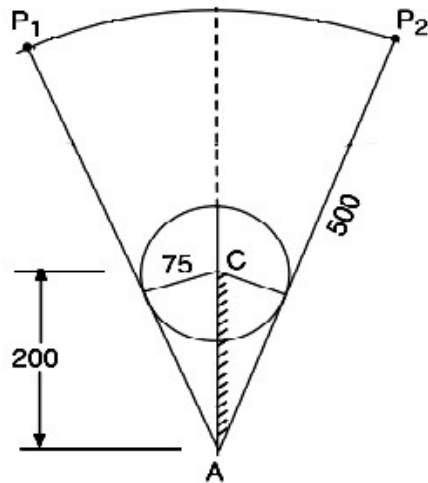

Fig: 3
3. (a) In a crank and slotted lever quick return mechanism, as shown in figure 3 below, the driving crank length is 75 mm. The distance between the fixed centers is 200 mm and the length of the slotted lever is 500 mm. Find the ratio of the times taken on the cutting and idle